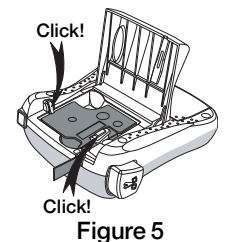

Figure 5
- 3 Press firmly until cassette clicks into place. See Figure 5.